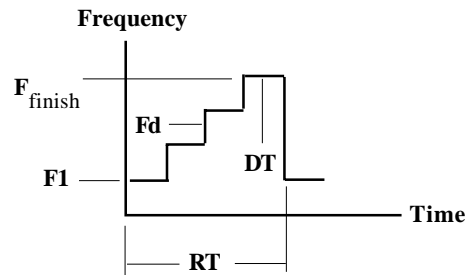

Figure 2: Sawtooth Waveform
The sawtooth waveform will immediately begin. This waveform will be repeated continuously until a new command(s) is sent. See Figure 2 below for a visual representation.
In Figure 2 the following equations apply:
4.2.4.2 Mode 3 Example. Assume you desire to set $F1 = 1.0$ MHz, $F_{\text{finish}} = 6.0$ MHz and the Repeat Time $(RT) = 5$ Milliseconds. Also assume you are using the internal crystal oscillator and the default clock multiplier (Kp) of 10. To simplify the equations, the SOF8 program sets $Td = 1$ in mode 3. We first calculate the value of Tr needed to set $RT = 5$ Milliseconds using the equations in Figure 2 as follows: